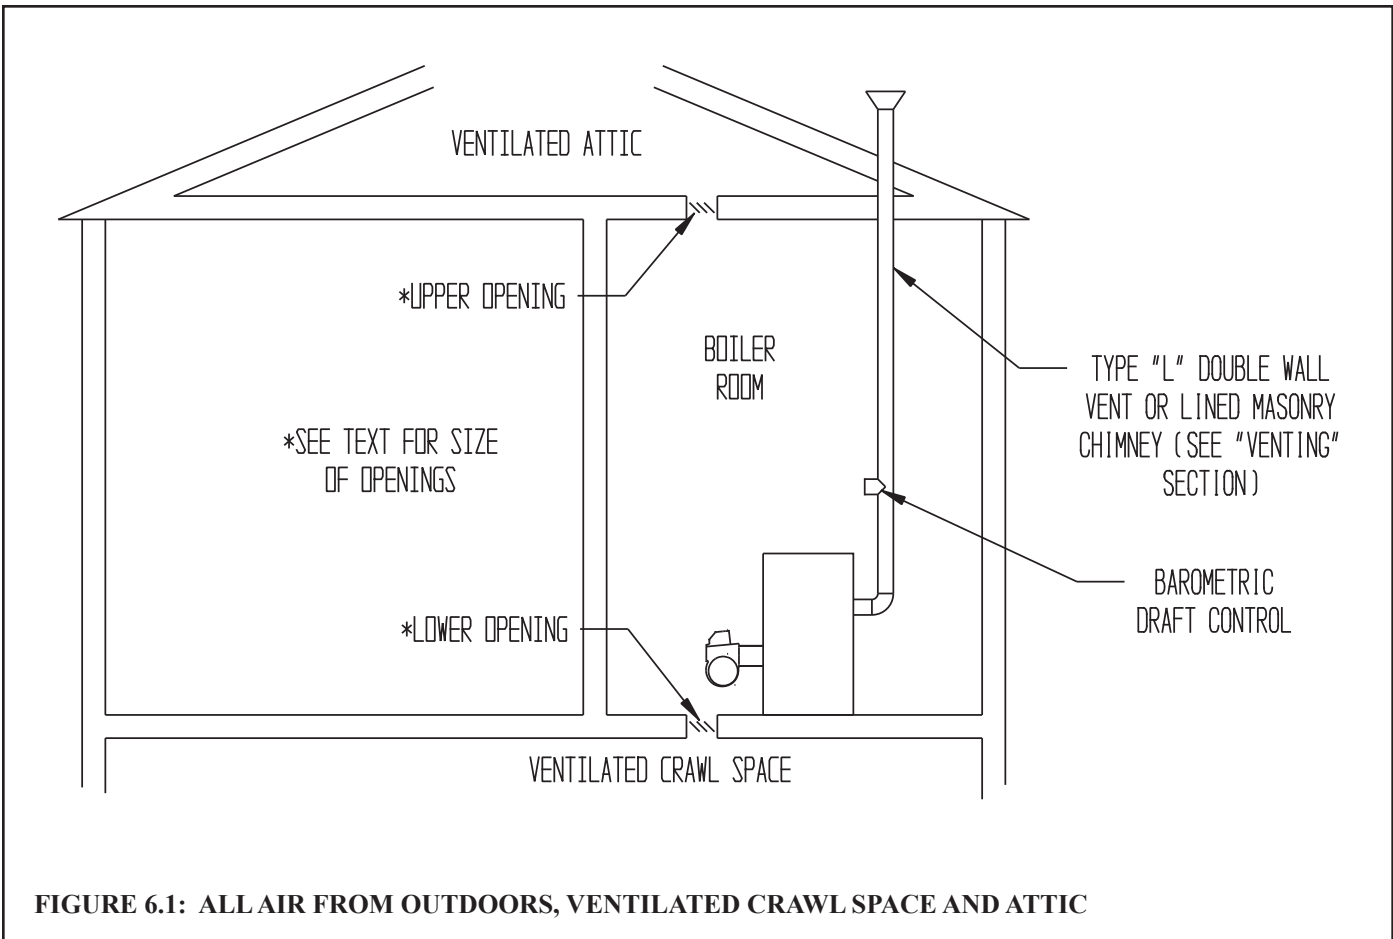
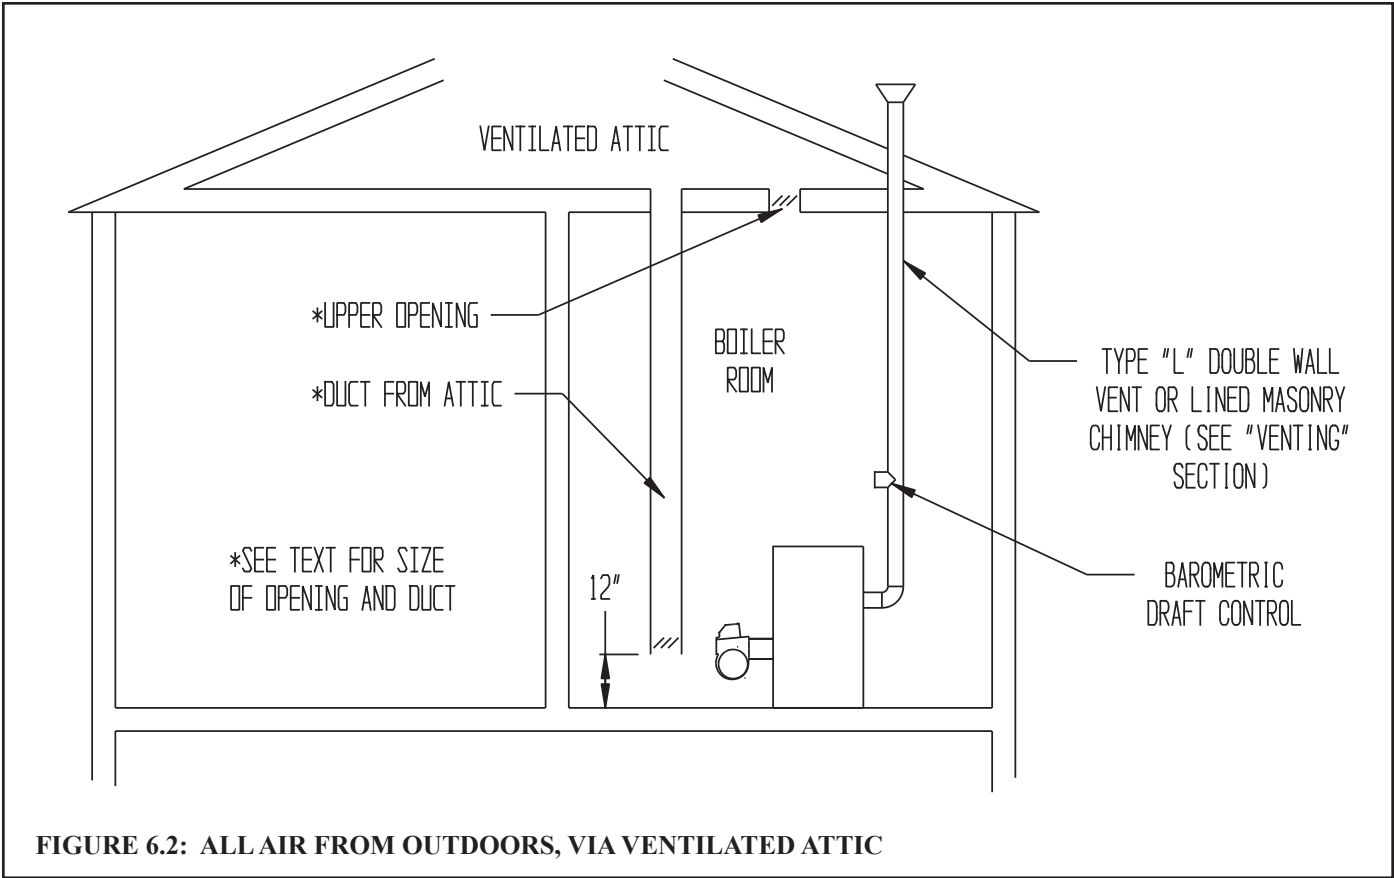
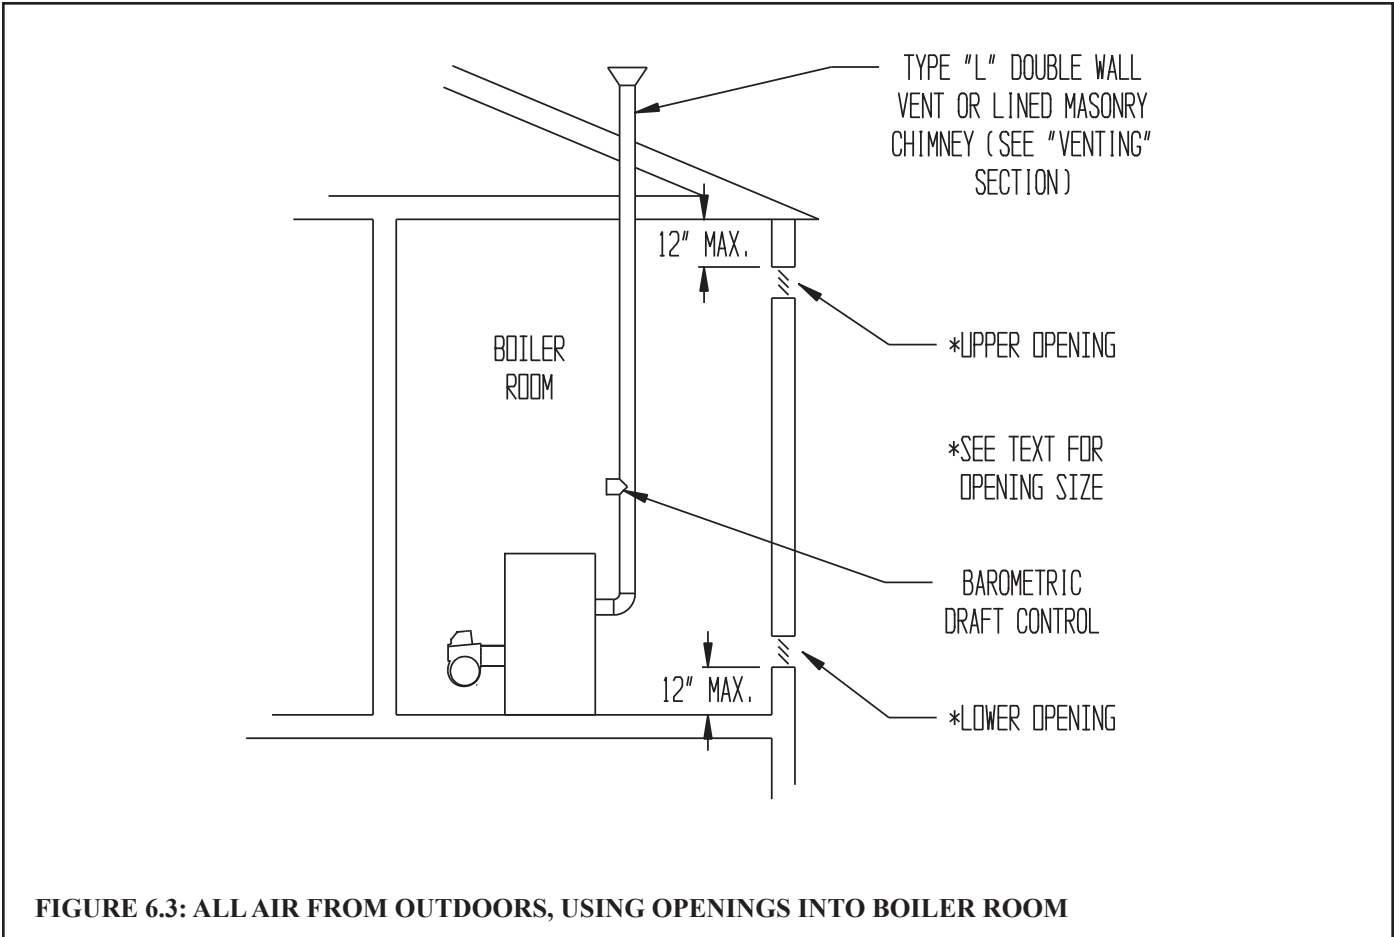

FIGURE 6.1: ALL AIR FROM OUTDOORS, VENTILATED CRAWL SPACE AND ATTIC
FIGURE 6.2: ALL AIR FROM OUTDOORS, VIA VENTILATED ATTIC
FIGURE 6.3: ALL AIR FROM OUTDOORS, USING OPENINGS INTO BOILER ROOM
- Vertical ducts or openings directly outdoors (Figure 6.1, Figure 6.2, and Figure 6.3) - Each opening must have a free cross sectional area of 1 square inch per 4000 BTU/hr of the total input of all fuel fired appliances in the boiler room but not less than 100 square inches. Minimum opening size is 3 inches.